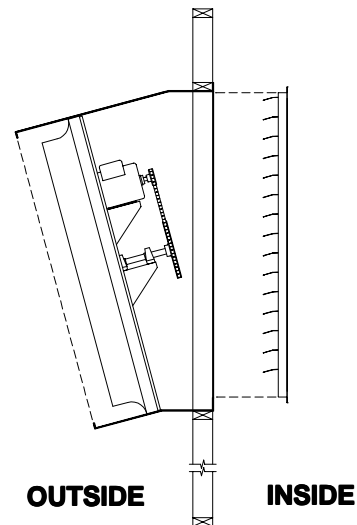
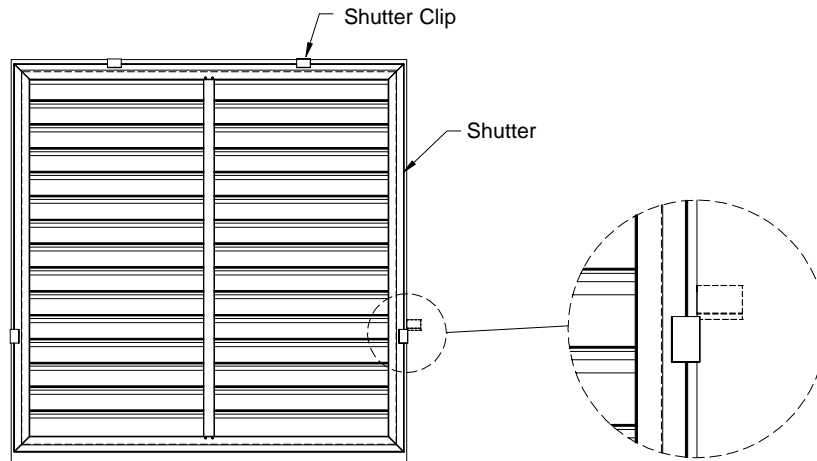

Figure 3
Figure 4
- 3) Insert shutter into housing **See Figure 3.** Rotate shutter clips down over shutter flange to secure it in place. Gently push shutter blades open by hand, checking for smooth operation. **See Figure 4.**